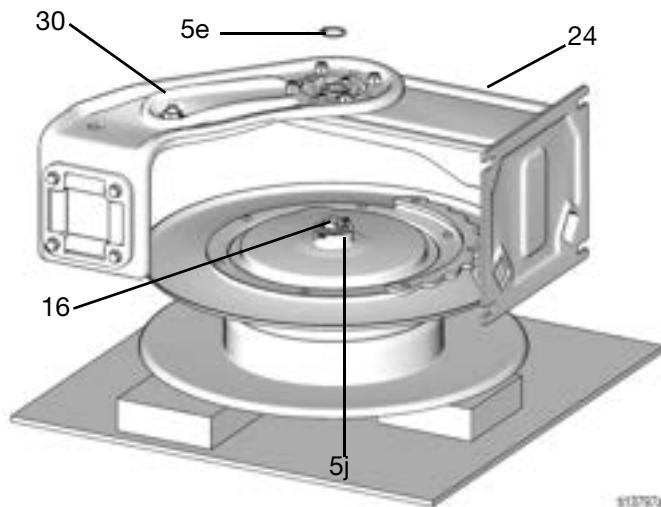

FIG. 22
10. Remove the snap ring (5e) (FIG. 22).
13. Place the new spool (5) on its side on a work bench, with the flat side of the spool facing downward and the ratchet side facing upward, see FIG. 22.
14. Position the guide arm (30) and pedestal base (24) assembly over the spool. Adjust, as needed, to align the parts.
NOTE: Re-attaching the guide arm (30) and pedestal base (24) assembly is easier when the spool (5) is supported and level. Placing 1 in. (25 mm) scrap wood blocks under the spool, as shown in FIG. 22, supports it during installation of the arm.
17. Install washers (15 and 17) and the long bolt (18), but do not tighten the bolt.
19. Place the guide arm (30) and pedestal assembly (29) over the swivel assembly and spool (5).
20. Install large nut (11) and tighten (torque 85 - 105 ft-lb/115.2 - 142.4 N•m) (FIG. 22).
21. Tighten the bolt (18) (torque 25 - 35 ft-lb (33.9 - 47.5 N•m).
22. Align the guide arm (29) and guide arm (30), then install screws (27) and tighten torque 20 - 30 ft-lb (27.1 - 40.7 N•m).
23. Align the pedestal assembly (26) to the base (24). Install two screws (27) and tighten (torque 20 - 30 ft-lb (27.1 - 40.7 N•m).